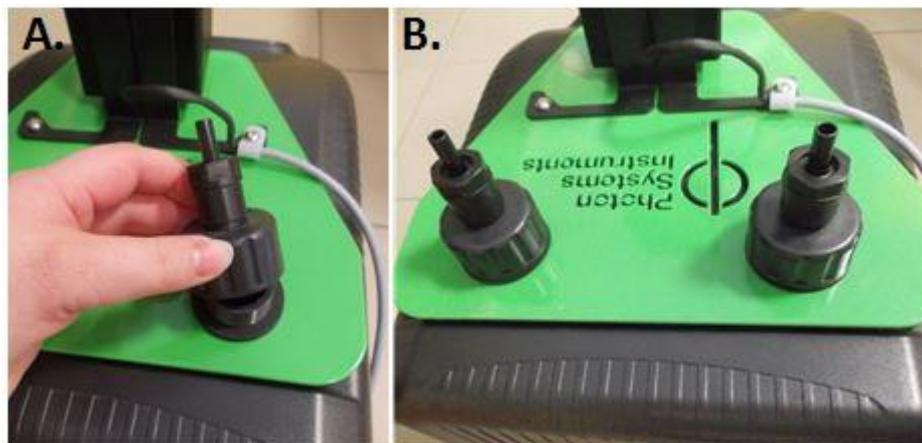

Fig. 11 Fixing of the pump with screws.
3. Finally, fix the water pump to the water chiller with screws (Fig. 11).